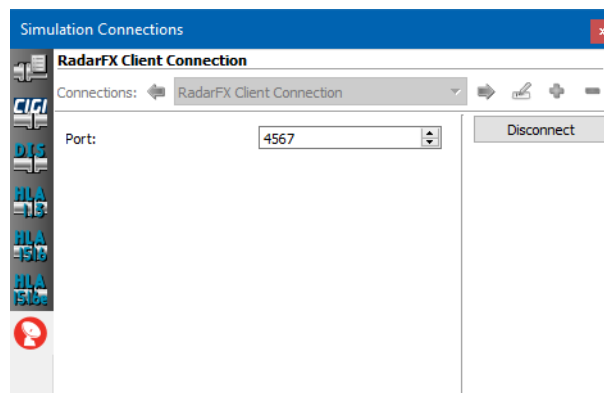

Figure 2-3. RadarFX Client Connections page
2. Select the RadarFX Client Connection page (Figure 2-3).